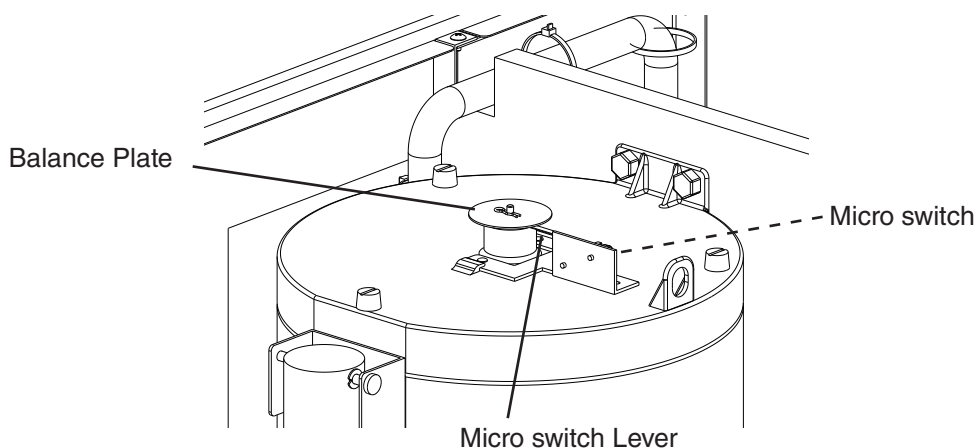

Fig. 4
- 7) Confirm bin control operation. Lift the balance plate located on the bin top until the micro switch lever lifts and micro switch opens. See Fig. 4. 90-second compressor shutdown timer starts. Once the 90-second compressor shutdown timer terminates, compressor de-energizes and the 60-second gear motor shutdown timer starts. Once the 60-second gear motor shutdown timer terminates, gear motor de-energizes. Release the balance plate back to its correct position.